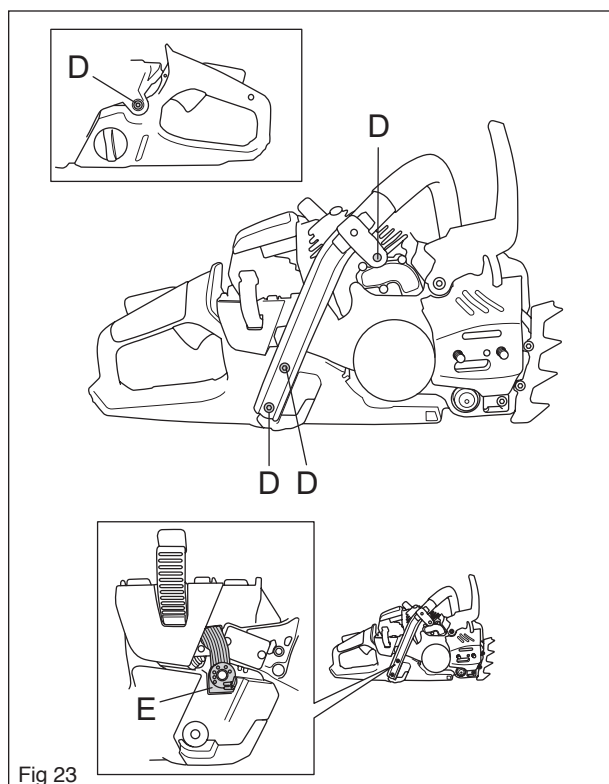

Fig 23
- 2 Loosen screws D and the movement limiter E as outlined in figure 23. Loosen the ignition cable.